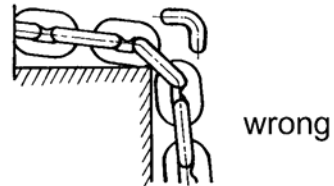

Figure 7
- ❑ Prevent the chain from dragging over sharp edges or corners. These will cause links to weaken, bend, or break, (Fig. 7).